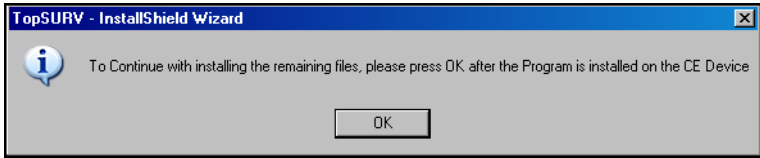

Figure 1-13. Install Remaining Files
15. After this step, the following message is displayed on the PC screen indicating that the selected features will be installed on the controller (Figure 1-13).
17. After clicking OK to the message on the PC screen (Figure 1-13), the installation program starts copying the selected feature files into corresponding folders under the TopSURV folder on the controller.